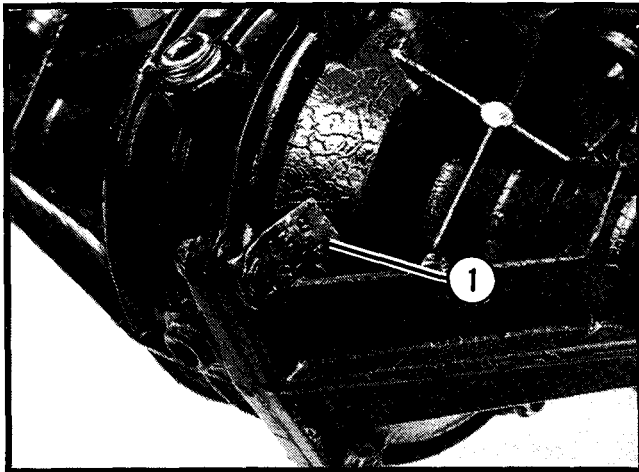

Figure 16.
- 3. Install screws and self locking nuts. Under the head of one of the screws, install the metal tag that designates the proper gear ratio. See Figure 16.